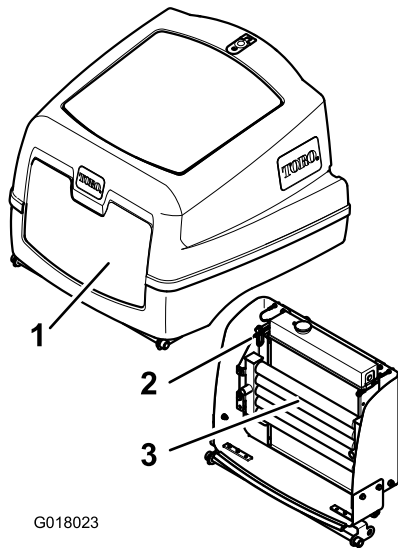

Figure 48
4. Release the latch and open the engine cover (Figure 48).